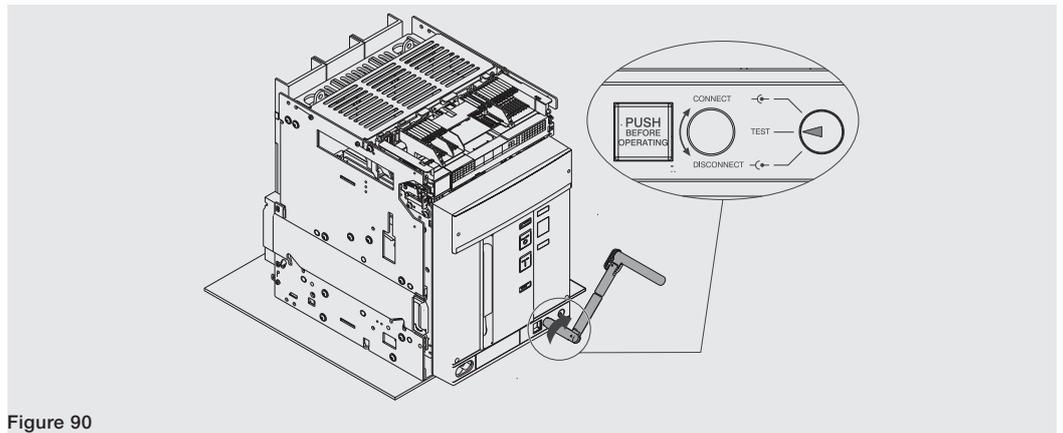

Figure 90
10. Turn the crank clockwise until the pushbutton comes out and the indicator shows that the circuit-breaker is in **TEST** position. See Figure 90.